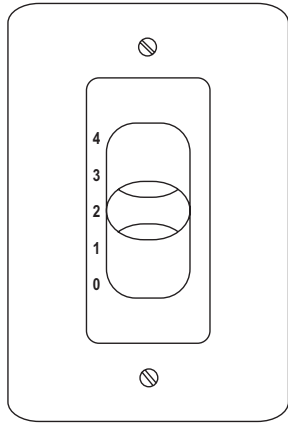

Figure 18
- 2. Check the operation of the fan by sliding the bar of the control through the four positions marked 1 - 4 ("0" position is OFF) (Figure 18).